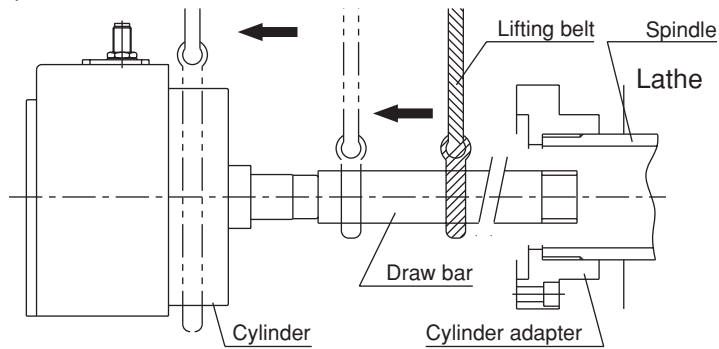

Fig. 16
- When removing/installing the cylinder, use a lifting belt and perform as follows. (Fig.16)
- (1) To lift up the cylinder, engage a lifting belt with the draw-bar and lift up the cylinder while supporting it.
- (2) Insert the draw-bar into the spindle.
- (3) When a lifting belt comes close to the spindle, shift the lifting belt toward the cylinder.
- (4) When the draw-pipe has entered the spindle sufficiently, re-engage a lifting belt with the cylinder body and fit the cylinder closely to the spindle and then install the cylinder with the cylinder mounting bolts.